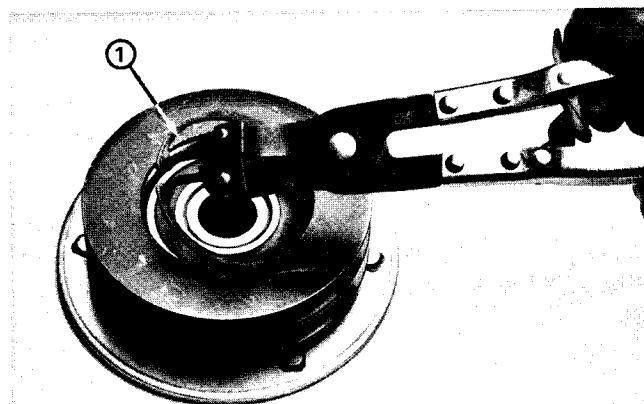

Figure 28
A. Remove the retaining ring (Fig. 28).
F. Install the retaining ring (Fig. 28).